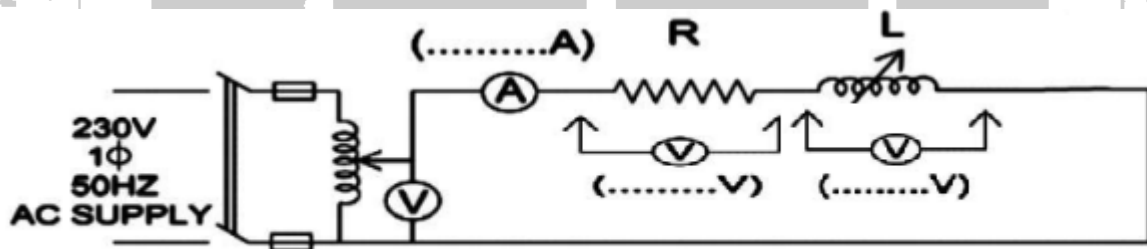

Fig 20.3: R-L series circuit diagram
2. Connect the circuit as shown in figure 20.3.